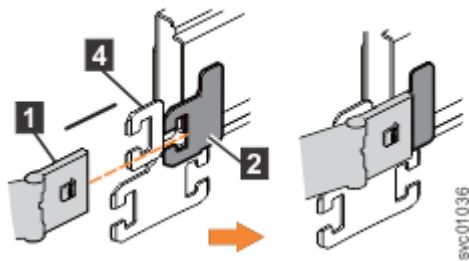

Figure 51. Install the inner connector of the upper CMA to the inner member of the support rail
2. Install the inner connector of the upper CMA assembly (**1**) to the inner member of the left support rail (**2**), as shown in Figure 51 on page 53.